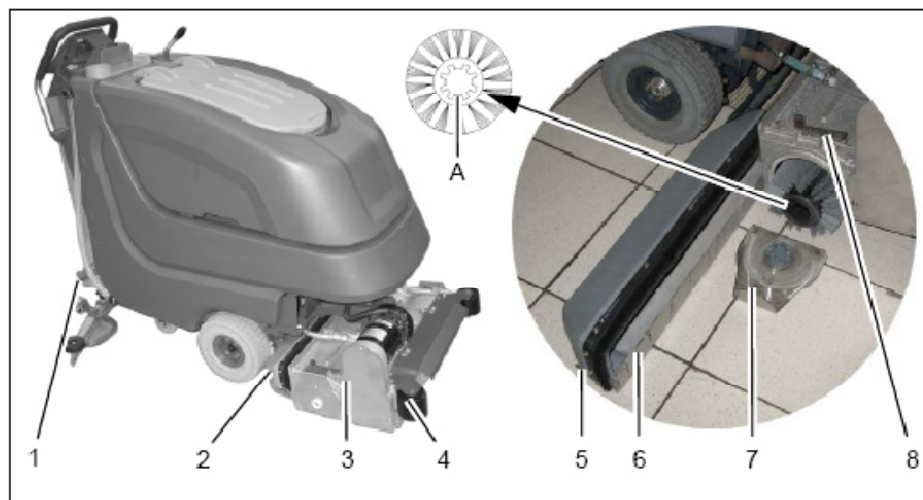

Fig.11
Clean hopper (Fig. 11/2) at daily intervals or as required.
Remove hopper from the right side of machine Orientation is viewed from the operating position. Use quick-release (Fig. 11/5) to loosen feed inlet (Fig. 11/6) and clean debris hopper.
1. Lift cylindrical scrub head (Fig.11/3) by pedal (Fig. 11/1).
2. Release brushes (Fig. 11/7) via locking lever (Fig. 11/8).
Check deflector rollers (Fig. 11/4) at weekly intervals and replace if required.